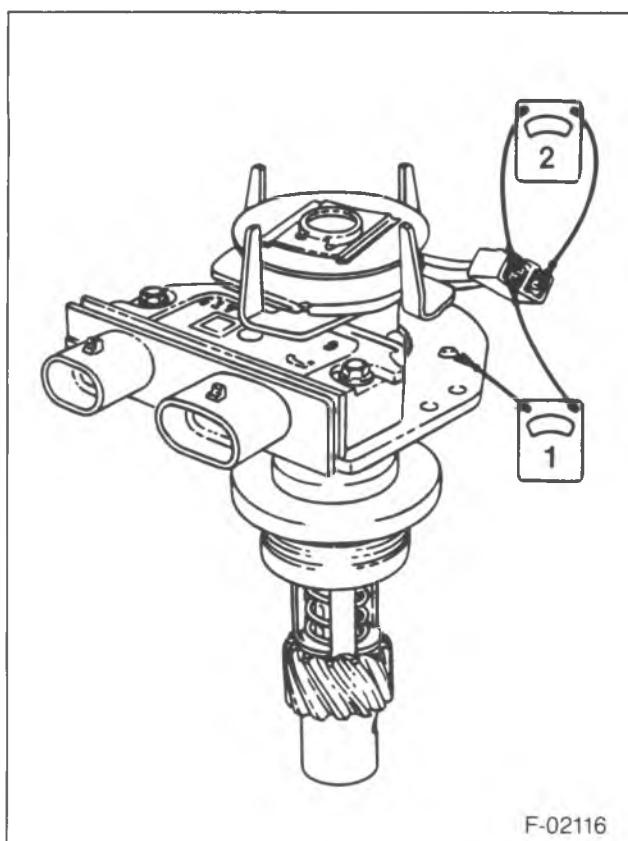

Figure 81—Testing the Pickup Coil
- Connect an ohmmeter to either pickup coil lead and the housing as shown in figure 81, step 1. The reading should be infinite. If not, replace the coil.
- Connect an ohmmeter to both pickup coil leads as shown in figure 81, step 2. Flex the leads by hand at the coil and the connector to locate any intermittent opens. The ohmmeter should read a constant unchanging value in the 500 to 1500 ohm range. If not, replace the coil.